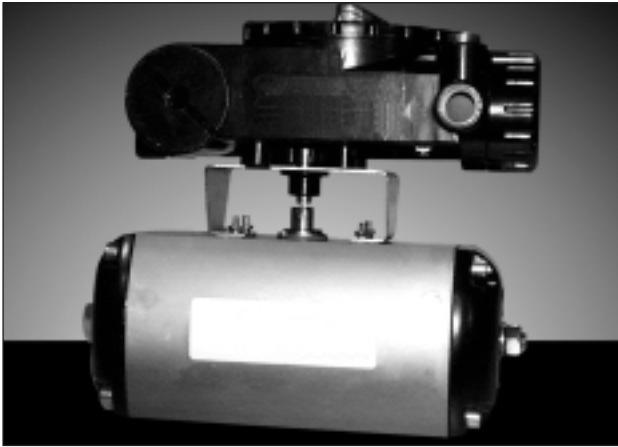

Figure 7: Positioner on Mounting Bracket
5. Making sure positioner shaft rotation matches actuator shaft rotation, place positioner on mounting bracket (Figure 7). Make sure shafts engage. **Do not insert fasteners into positioner at this time.**